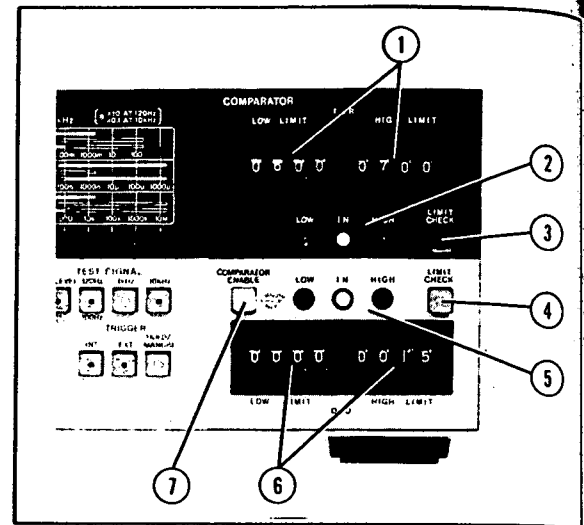

Figure 3-42. Front Panel Features
**3-51. Front Panel Features (Figure 3-42).**
- (1) LCR LIMIT Switch: Two four-digit switches provide HIGH and LOW limit values with which measured LCR value is compared. Setting range is from 0000 to 1999.
- (2) LCR Decision Output Lamp: Results of comparison are indicated by LED lamps as follows: